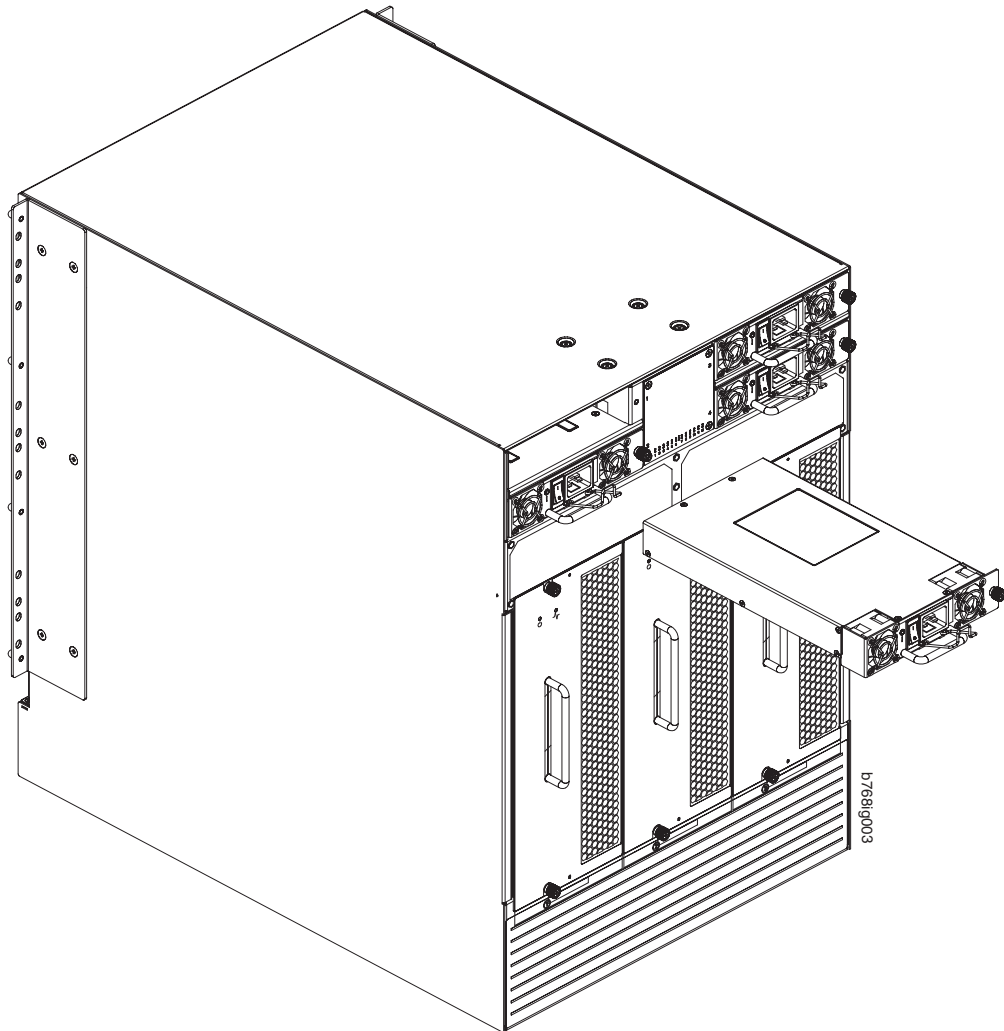

Figure 27. Removing and installing a power supply
2. Pull the handle out and down (see Figure 27).